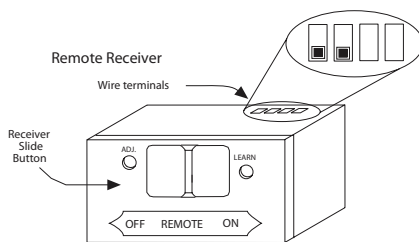

Figure 27 - Remote Receiver
2. Remote receiver can be placed in the hole on the switch bracket or placed on the floor underneath the firebox, see Figure 27. See remote instructions for further information.